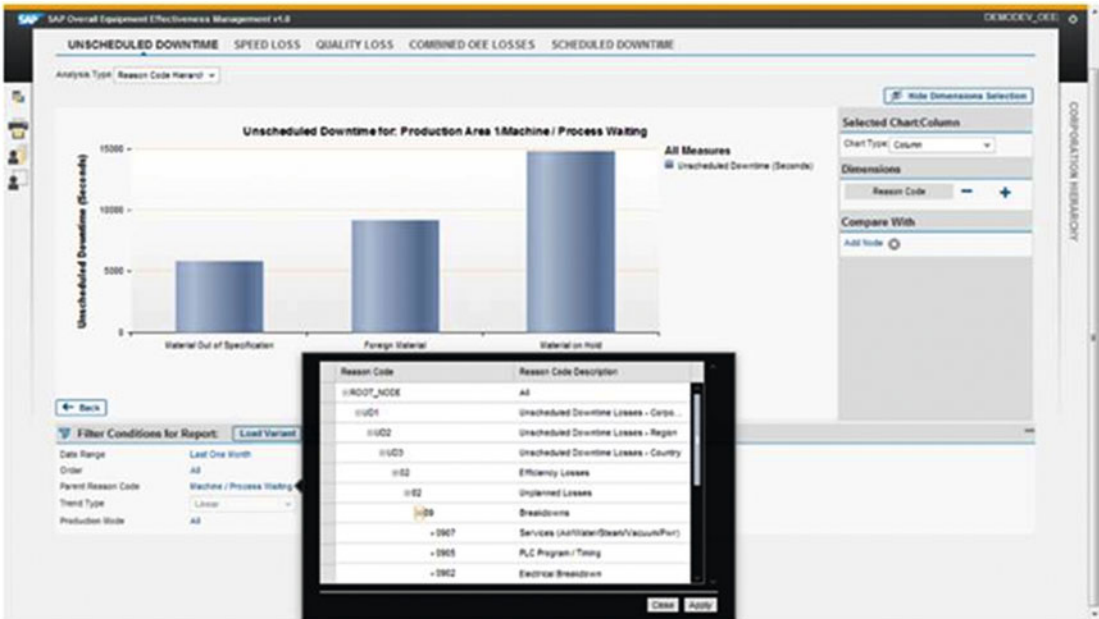

Figure 9-13. Reason code filter settings
- Under the main report area, below the main chart, lie the filter criteria that can be applied to the report. There are several filtering options for each report. You can filter unscheduled downtime losses by date range, shift, reason code level, and so on. All the reports will have a date range option that should be selected to see a limited amount of data. Otherwise, the reports will show all the data available. The date range, once selected, can be saved as a variant, allowing you to easily use the same date range again. The date range option is either an absolute range or a relative range. For example, Last One Month is a relative date range. The reason code level filter helps you to set the reason code level you want to view from. Figure 9-13 shows you the reason code filter settings.